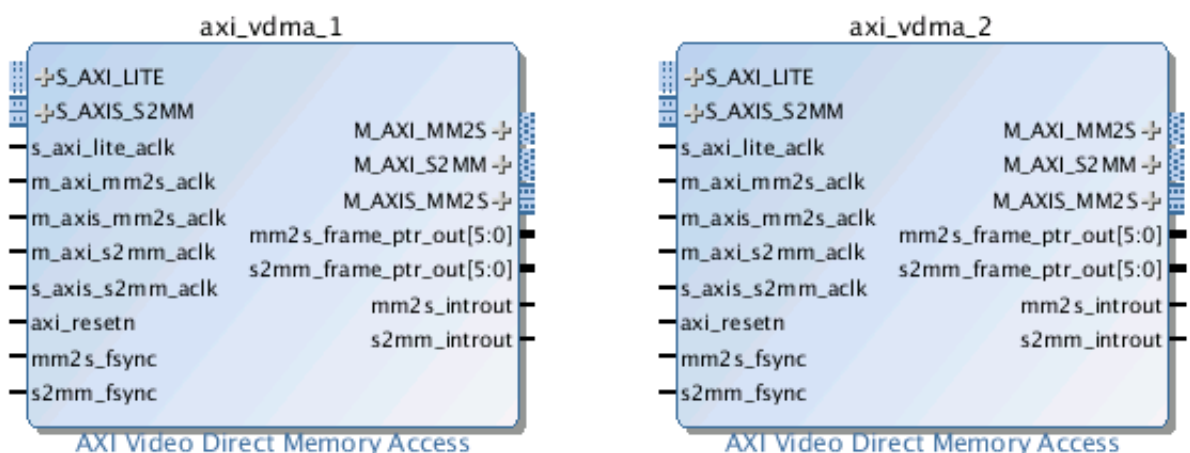

Figure 49: Two VDMA Blocks in Diagram
- Press **Ctrl+V** to duplicate it as **axi\_vdma\_2**, (Figure 49).